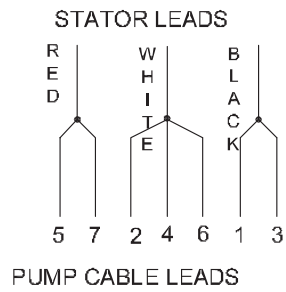

**FIGURE 10**
Remove capscrews (31), flat washers (49), lockwashers (55) and quad rings (56) from discharge head (22). Carefully, using a plastic hammer, tap the discharge case (22) free from the frame assembly and remove while feeding the stator wires through the terminal cavity and stator dam (47) in the discharge case. Now remove o-rings (19) and (20), replace o-rings showing any nicks, cuts, cracks, or deformation. To remove cable (2a), loosen cable grip nut (2b), cable grip (2c) and bushing (2d) and remove from cable. (See Figure 10).